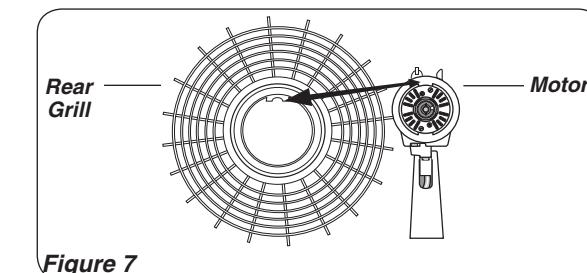

Figure 7
1. Tilt *Head Assembly* back. Put *Rear Grill* on Motor. (*Figure 7*)